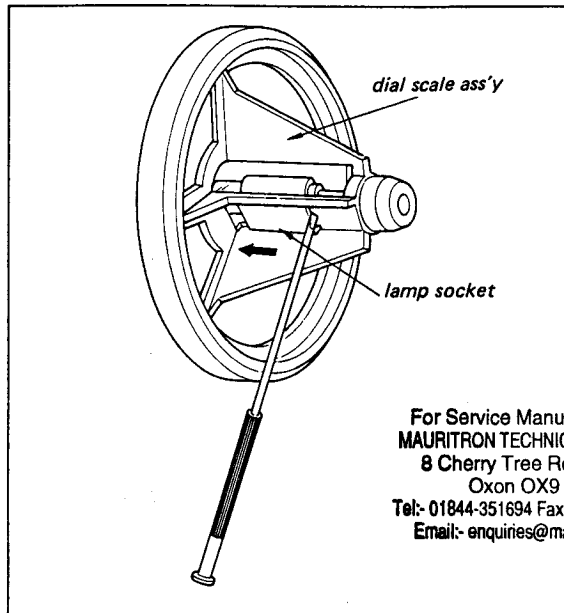

Fig. 2-11. Dial lamp removal
2. Slide the lamp socket forward to permit removal of lamp as shown in Fig. 2-11.